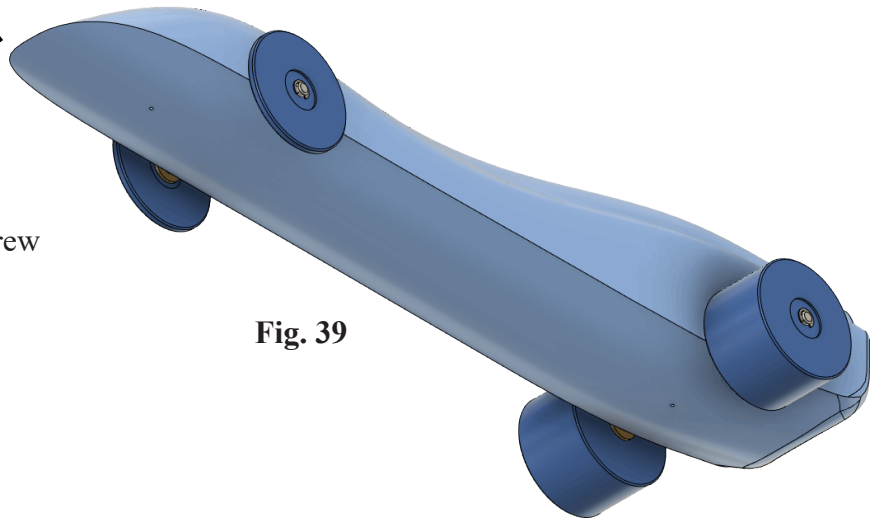

Fig. 39
Step 2. Drag **Eye Screw** from Data Panel  onto the canvas, Fig. 39.